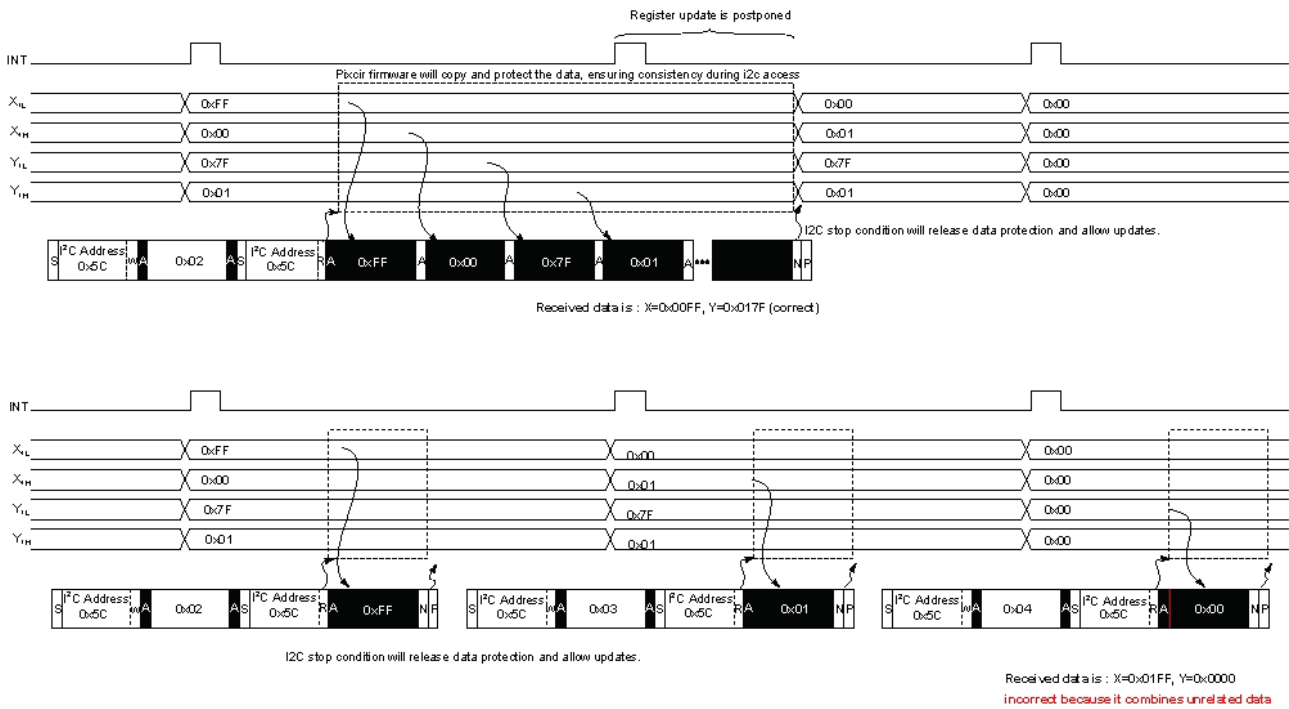

Figure 9.3.6: Coordinates read operation explanation
- If the host do not finish the read operation when the INT line is set again, the slave firmware will delay to update coordinates registers for I²C read operation until the host finish the read operation. referred to first part of figure 9.3.6.
- I²C stop condition will release data protection and allow the slave firmware update the coordinates registers for I²C read operation. So, the host has the chance to get incorrect data when it get the coordinates data with single read operation. Because the host send many times of I²C stop condition in each multi-fingers coordinates position reading, it will give the slave firmware chance to update the coordinates registers for I²C read operation, the host will give a combines unrelated data (combines new and old coordinates together), referred to the second part of figure 9.3.6.